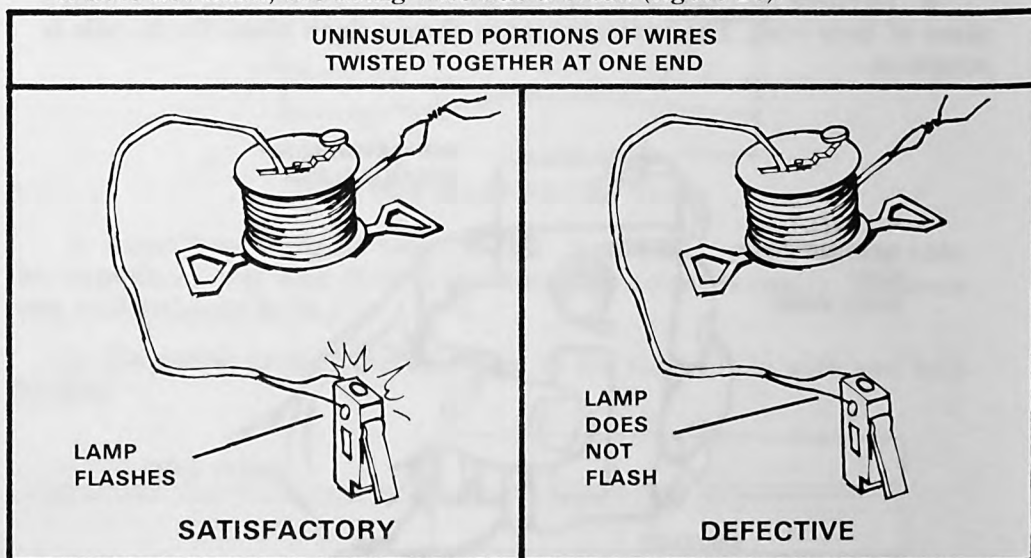

Figure 2b.
(2) Twist the wires together at one end, and connect those at the other end to the test set posts. Actuate test set. The indicator lamp should flash. If it does not flash, the firing wire has a break (figure 2b).